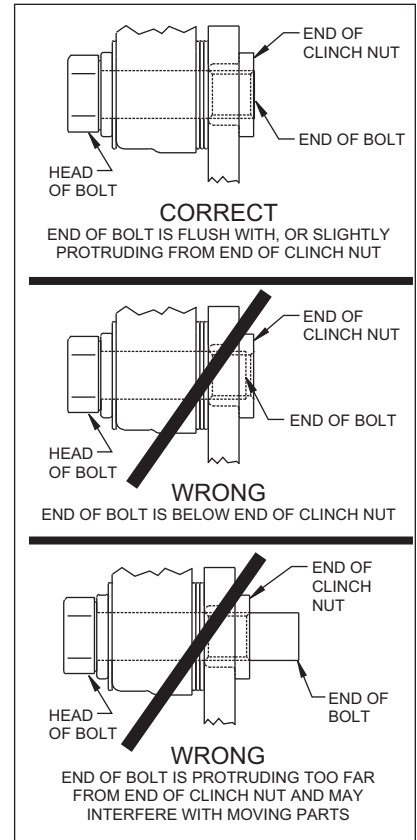

Figure 5.
•**NOTE:** Please reference the caution statement at the beginning of the assembly instructions. WITH THE BLEED SCREWS POINTING UP, mount the caliper (6) over the rotor (3) and onto the caliper mounting bracket (1) using washers (7) and mounting bolts (8). View the rotor through the top opening of the caliper. The rotor should be aligned in the center of the caliper. If not, adjust the caliper by using 0.032 inch shim washers (9), placing them between the caliper mounting bracket (1) and the caliper (6). Add as many shim washers (9) as necessary to achieve the correct alignment. **NOTE:** The end of the bolt must be flush with or slightly protruding from the head of the clinch nut. See Figure 5. Place spare shims (9) between washer and caliper mounting ear to achieve the proper mounting fastener configuration. Always use the same amount of shims on both the top and bottom caliper mounting bolts (8). Apply red *Loctite*® 271 to the mounting bolt threads (8), torque bolts to 30 ft-lb. Safety wire the caliper mounting bolts (8).
•Position the Wilwood disc brake pads (10) into the caliper (6) and fasten with cotter pin (11). Steel backing plate side of brake pad should face the caliper pistons.